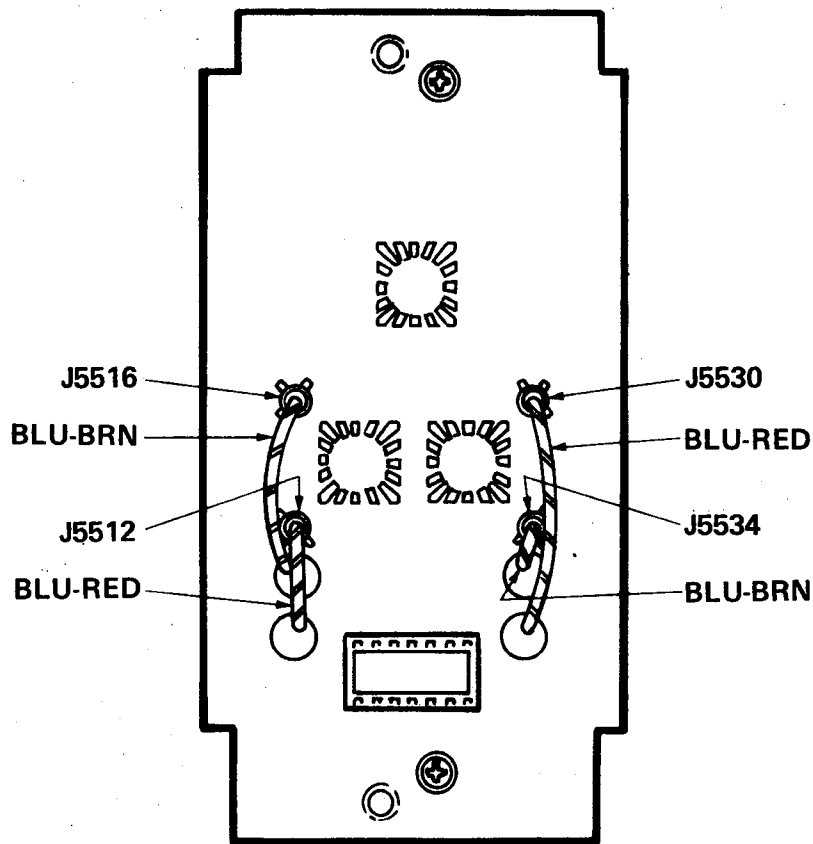

Fig. 1. Coaxial cable connections for the 'A' Trigger Selector circuit board.
- () 18. Insert the free ends of the above installed coaxial cables through the aligned holes in the new 'A' Trigger Selector circuit board (included in the kit). See Fig. 1.
- () 22. Connect the four added coaxial cables to the 'A' Trigger Selector circuit board as follows (see Fig. 1):
- () 24. Refer to the Calibration Section (3) of the Instruction Manual and the attached manual insert, then check instrument performance, especially the trigger system, making any necessary adjustments.